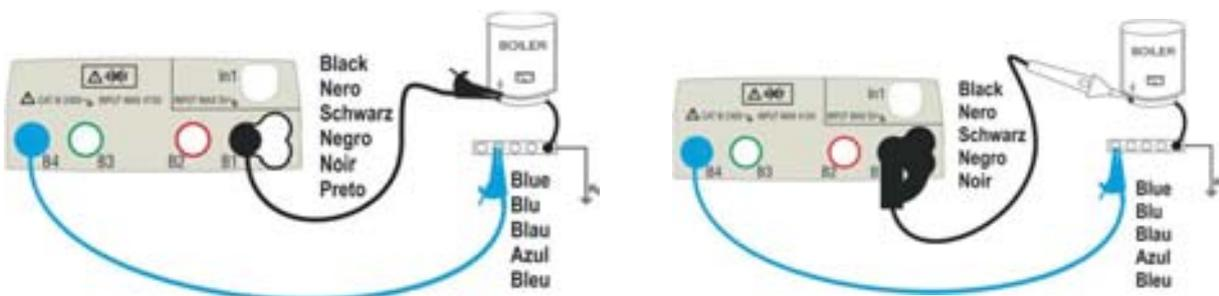

Fig. 6: Continuity test by means of single cables and remote lead
7. Connect the alligator clips and/or test leads and/or remote lead to the conductor to be tested as in Fig. 6.